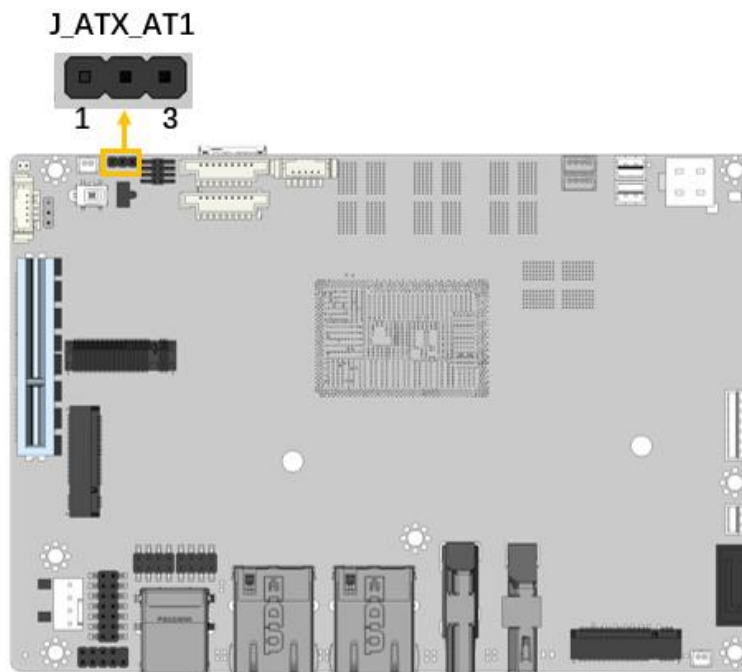

Figure 3-3: AT/ATX Power Mode Switch Locations
- CN Location:** See **Figure 3-3**
The AT/ATX power mode selection is made through the AT/ATX power mode switch which is shown in Figure3-3.